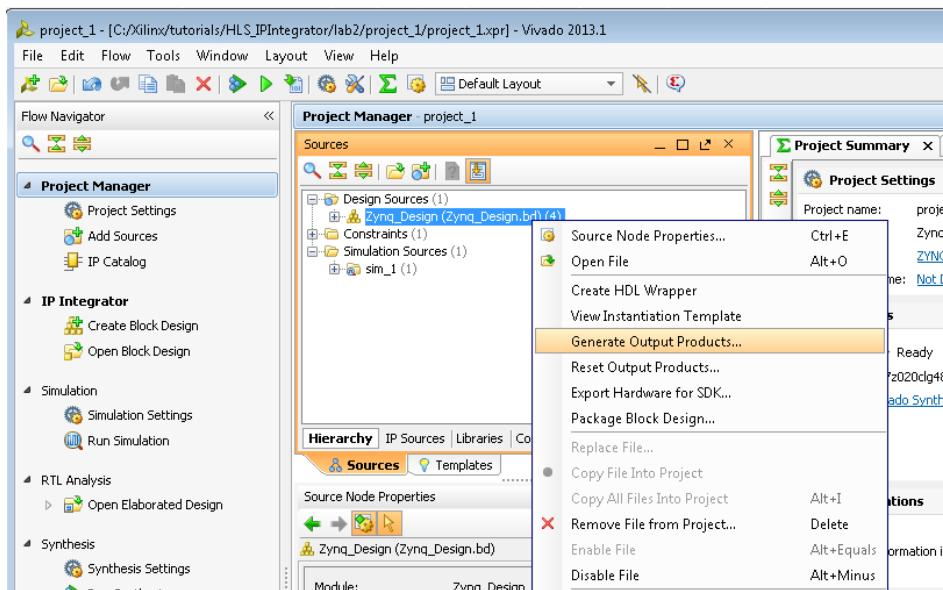

Figure 238 Wrapper Generation
2. In the Sources browser in the main workspace pane a Block Diagram object named Zynq_Design should be at the top of the Design Sources tree view. (Figure 238)